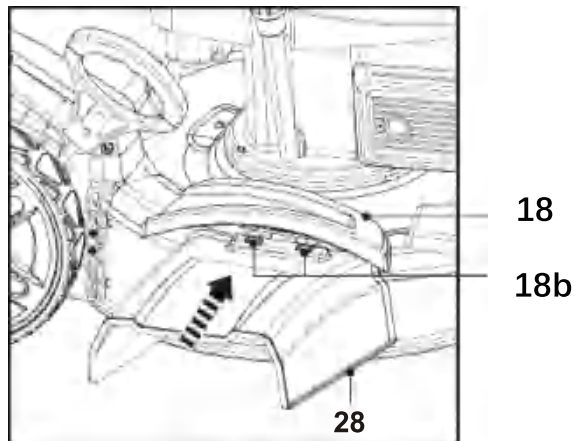

Fig. 17
4. Align and hang the slots (18b) of the side discharge attachment (18) onto the hooks (Fig. 17). The side discharge attachment is ready for use.